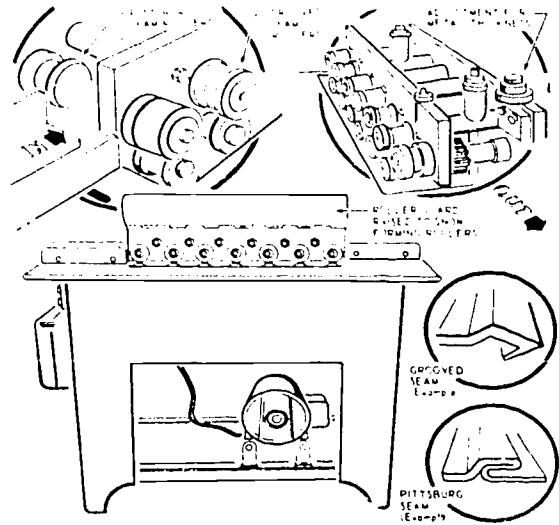
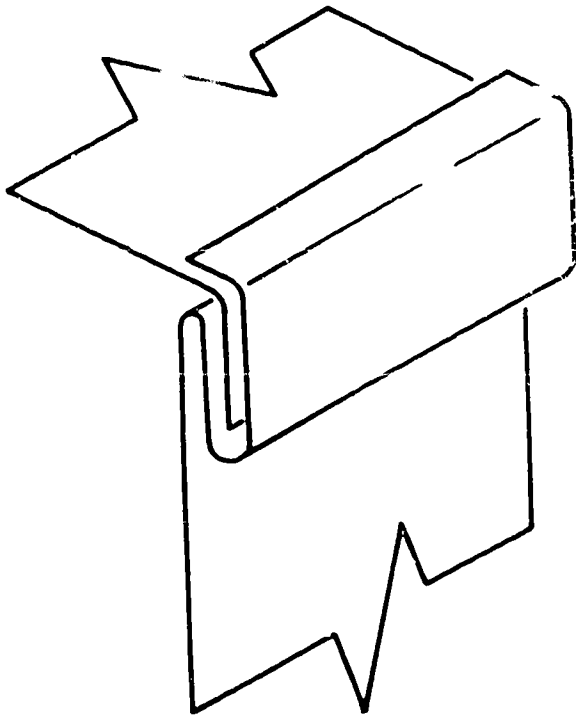

Figure 3-16. Pittsburgh lock-forming machine.
Figure 3-17. Pittsburgh seam.
**Pittsburgh Lock-Forming Machine.** The Pittsburgh lock-forming machine, shown in figure 3-16, is used to form Pittsburgh lock seams for corners of rectangular or square ducts and to form grooved seams for round ducts. These two seams are shown in the illustration. By changing the rollers, the Pittsburgh machine may be used to form other shapes of metal items. One such item is a drive slip used to connect sections of duct work. Check the manufacturer's handbook for other forming operations and the roller used
for each forming operation. The machine illustrated can form 26- to 18-gage sheet metal by adjusting for metal thickness. Be careful to set the thickness gage correctly to prevent damage to the rollers, and never overload the machine. The machine has guides to keep the material straight as it is fed into the rollers and has a protective cover over the rollers. Although figure 3-16 shows this roller guard in the raised position in order to view the rollers, the machine is never operated with the cover open. When the rollers are being cleaned or changed, electrical power to the machine should be removed so the on-off switch is inoperative.
Before using the Pittsburgh lock-forming machine, you should make seam allowances on the pattern, and you should notch the material. Usually, for a Pittsburgh seam the allowance is 1 1/4 inches (1 inch for the seam side and 1/4 inch for the flanged side). The 1-inch seam is formed by the machine as shown in the example of the Pittsburgh seam in figure 3-16. The 1/4-inch flanged edge is bent 90° on a brake machine then fitted into the groove of the 1-inch seam as shown in figure 3-17. Then the metal which extends above the groove is flattened to hold the seam tight.